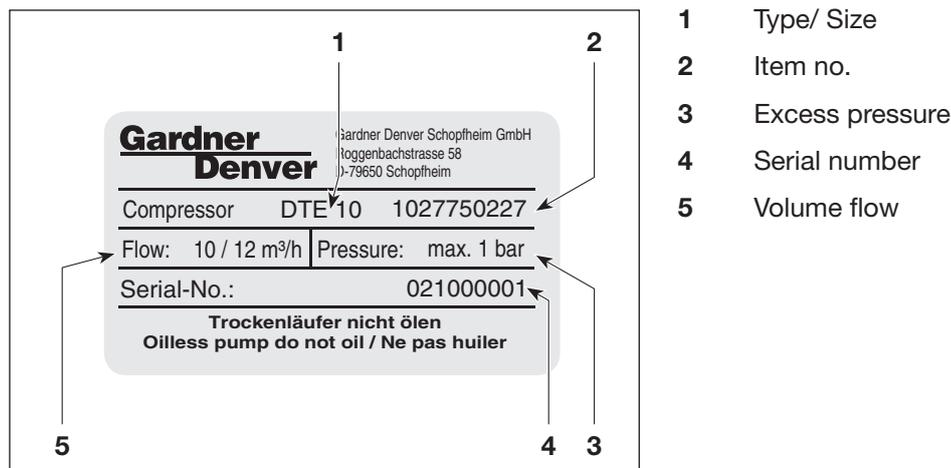

Fig. 2 Data plate
a) Pressure connection at (Fig. 2/B).